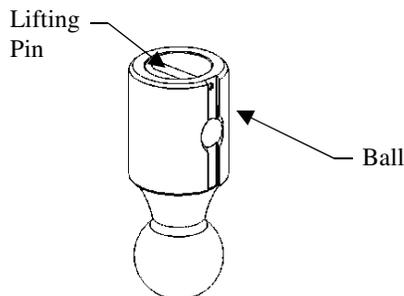

Figure 5
7. Align the holes on the template (provided with the gooseneck hitch) with the holes previously drilled through the bed. Be sure that the template is properly oriented toward the front of the vehicle. Center punch the holes that will be used to cut the opening in the bed (see Figure 5). If the vehicle is equipped with a bed liner, a section of the bed liner must be cut away so that the gooseneck platform can contact the bed corrugations.
10. With the ball in the stored position (see figure 5). Check for clearance between ball and truck equipment (I.E. differential, brake lines, electrical lines, and others) by measuring from axle up to rubber bumper stop and from ball to nearest item. If insufficient space is present, inform customer not to store ball in the head when carrying heavy loads. The axle to the rubber bumper stop distance should be less than the ball to nearest item.